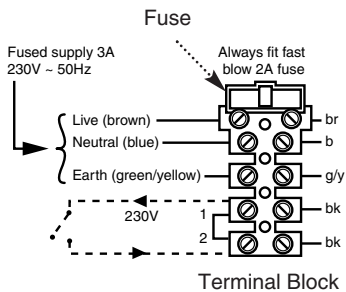

Fig. 36
7. To connect external control(s) remove the link between terminals 1 & 2. The 230V supply at terminal 1 can be connected to the external control as shown. The switched output from the external control must be connected to terminal 2. (Figs. 36 & 37).